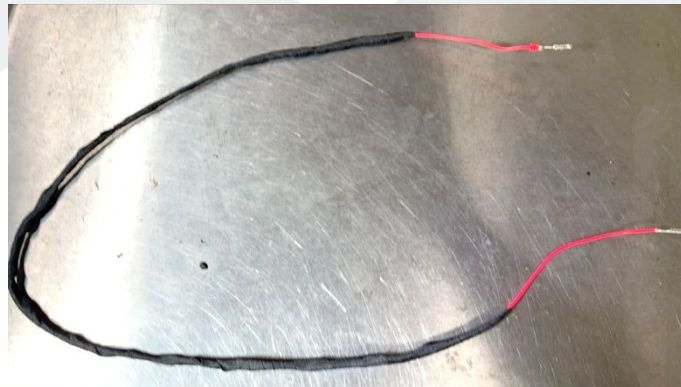

Figure 14
12. Wrap the overlay wire with harness tape, leaving approximately 50 mm from the ends unwrapped (Figure 14).